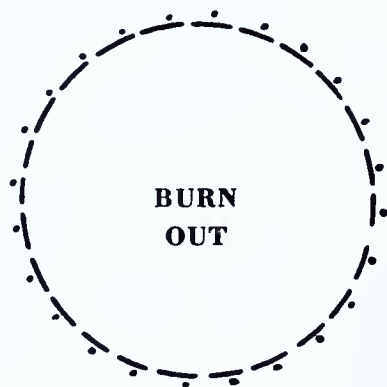

FIG. 286 — *Layout Marked for Opening to be Burned Out*
19. Mark with paint inside of the center-punched circle, BURN OUT, and mark with short dashes around the circle, as shown in Fig. 286.